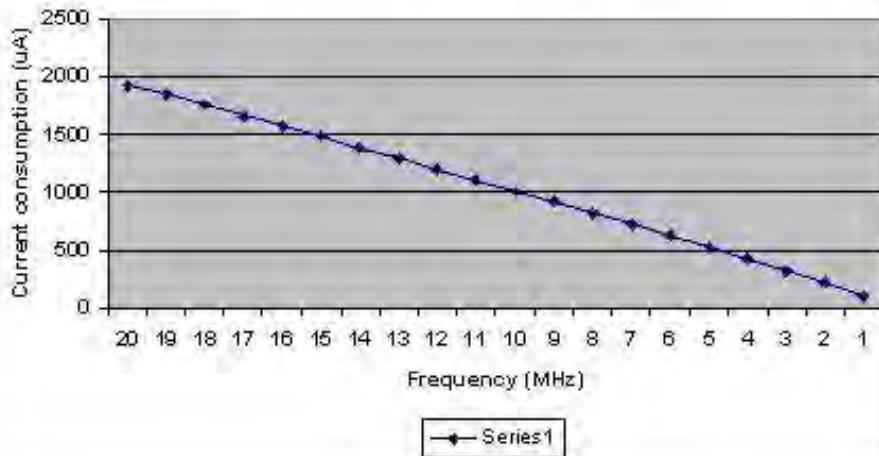
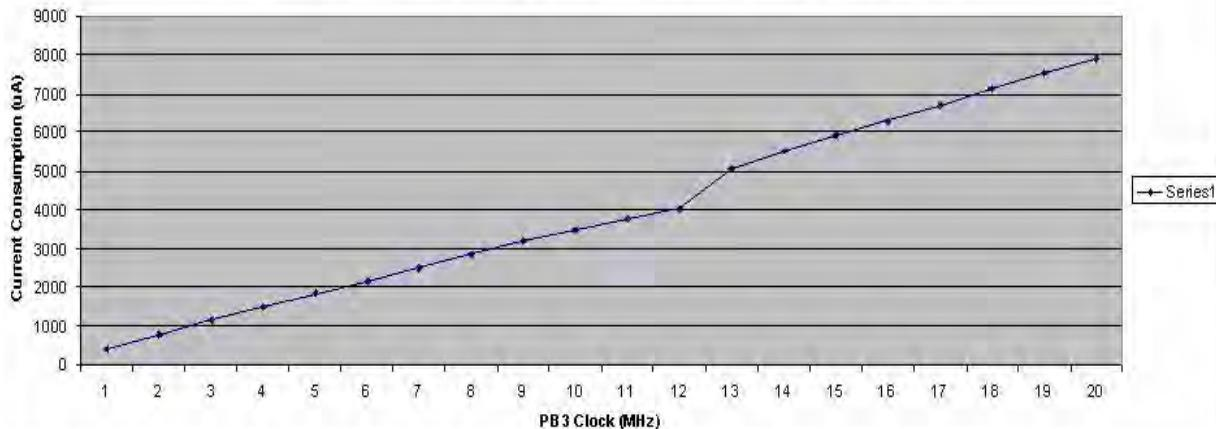

Figure 28. I_{CC} versus System Clock Frequency (HALT Mode)
Figure 29. I_{CC} versus System Clock Frequency (NORMAL Mode)
3. See Figure 28 on page 187 and Figure 29 on page 187 for HALT Mode current and ACTIVE (Normal) Mode current. The typical values are taken from the chart at 20MHz.
3. See Figure 28 on page 187 for HALT Mode current and Figure 29 on page 187 for ACTIVE (Normal) Mode current. The typical values are taken from the chart at 20MHz.
Figure 28 displays the typical current consumption while operating at 25°C and 3.3V versus the system clock frequency in HALT Mode.
Figure 29 displays the typical current consumption versus the system clock frequency in NORMAL Mode.